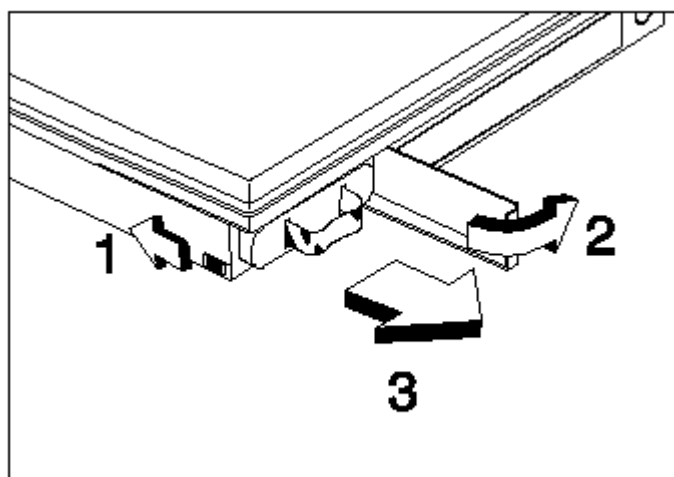

Figure 2-7 Battery Pack Installation
1. Unlatch the battery compartment door (right front corner of the unit) as shown in Figure 2-7.
2. Slide the battery compartment door out slightly and then swing the door outward as shown in Figure 2-7.